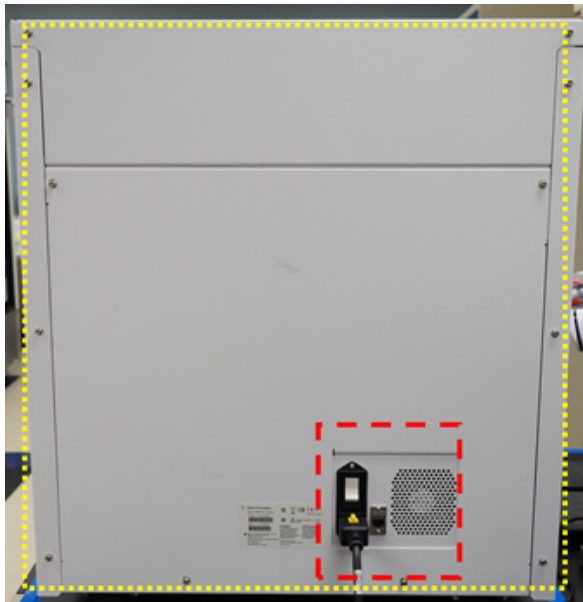

Figure 35 Exterior surfaces on the back of the instrument to be wiped down
- d Instrument Exterior - Back side:** Ensure power cord is unplugged from electrical supply. Using a laboratory wipe moistened with 70% isopropyl alcohol, wipe down the back side of the instrument, which is outlined in yellow in Figure 35. The area outlined in red requires particular attention as it includes the rear power button.